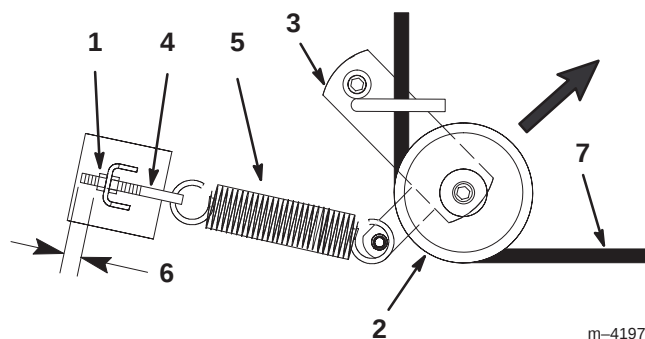
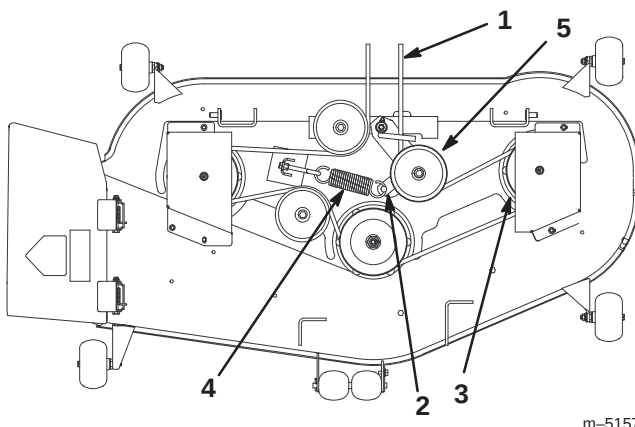

Figure 41
Figure 42
4. Pull the idler pulley in the direction shown in Figure 41 and roll the belt off of the pulleys.
5. Route the new belt through the idler arm and around the idler pulley (Fig. 41).
6. Pull the idler pulley in the direction shown in Figure 41 and route the belt onto the other pulleys (Fig. 42).
Note: Check to ensure that the length of exposed thread on the spring eye bolt is 1/8 in. (3 mm) (Fig. 41).